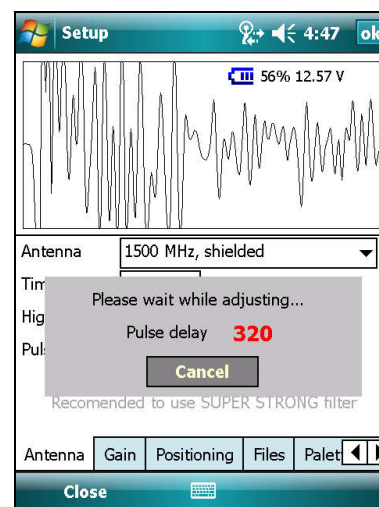
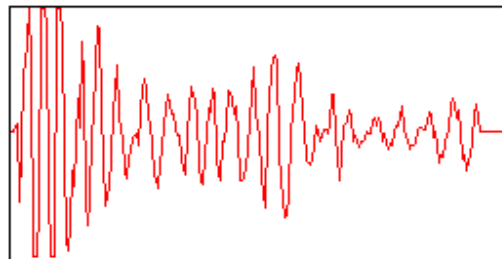

Fig. 7.5. Automatic setup of pulse delay
Fig. 7.15 Example of a good setup
- **Pulse Delay** – this option is meant for aligning a probing signal with the probing time range. Initial pulse delay values are entered in the program during its installation and do not reflect the optimal adjustment. The setup should be done when the georadar is first turned on with this antenna for this particular **Time Range**. The adjustment may be done either automatically or manually. When using the automatic mode, after you press the **AutoDelay** button the probing signal will be automatically aligned with the beginning of the probing time range (see Fig. 7.5). To cancel or stop automatic setup, press **Cancel** in the window that has appeared. When setting in the manual mode, set the probing signal at the desired position in the probing time range by using buttons . The optimal position is such position of the probing impulse in the probing time interval when the first lobe is off from the beginning of the time axis by approximately 1/20 of its length (see Fig. 7.15). After the initial adjustment, values of **Pulse Delay** will be saved for each combination **Antenna – Time Range** and every time you turn on the georadar henceforth you do not need to do this adjustment again.